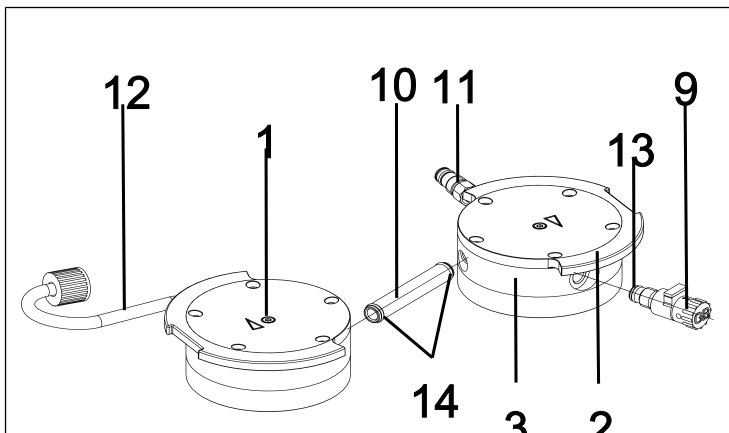

Fig.15: Change O-rings
2. Pull the connection tube (10/ Fig. 15) out of the head plate (3).
- i** The two hose connections (11) and (12) remain mounted in the head plates.
3. Replace the two O-rings (14) on the connection tube (10/ Fig. 15).
6. Unscrew the gas ballast (**9/Fig. 15**) from the head plate (**3**).
7. Replace the O-ring (**13**) on the gas ballast (**9/Fig. 15**).
8. Screw the gas ballast (**9/Fig. 15**) into the corresponding head plate (**3**) as far as it will go. Then turn it back again until the surface is oriented upwards.
7. Insert the connection tube (**10/Fig. 15**) back into both head plates (**3**).